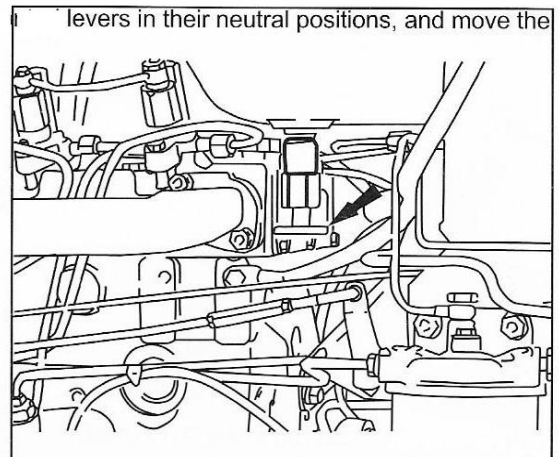

Fig. 32
3. Ensure that the fuel tap (if fitted, Fig. 32) is turned on.